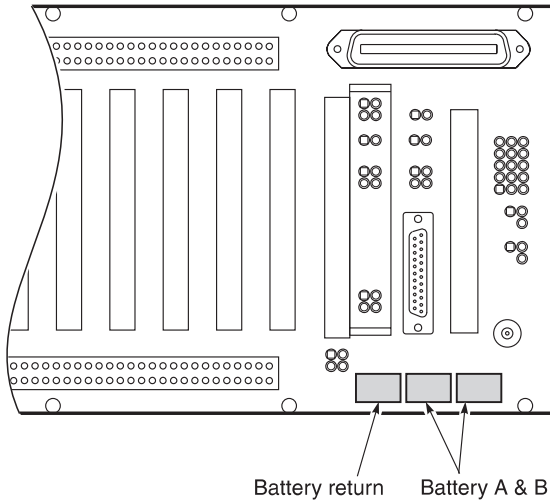

Figure 5. *Connecting the CO Battery*
- 4** Connect the CO battery (Figure 5):